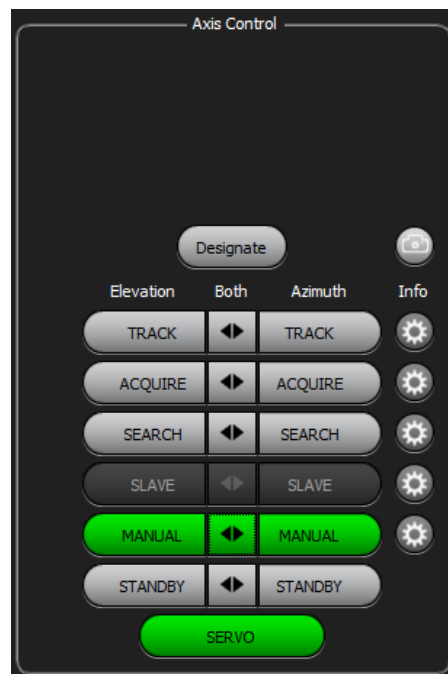

Figure 23: Axis Control Window, Manual Mode Buttons
2. On the Axis Control window, select Manual Mode, as shown in Figure 23, and verify that the Hand Wheel Position illuminates green for both Elevation and Azimuth Input Controls.